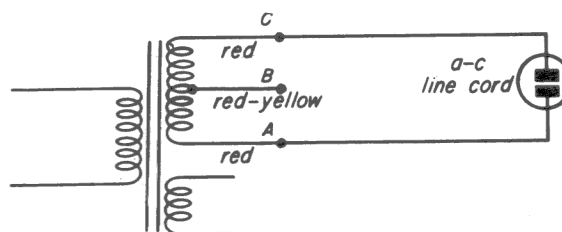

Fig. 13-9
Step 6. Disconnect the a-c line cord lead from the high-voltage center tap (red-yellow) lead and connect it, instead, to the free high-voltage (red) lead, as in Fig. 13-9. Be careful not to short the connections.